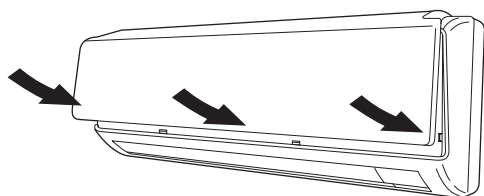

Fig. 19b-1
- (b) Press the bottom right and left corners and center of the air intake grille to attach it to the indoor unit. (Fig. 19b-1)